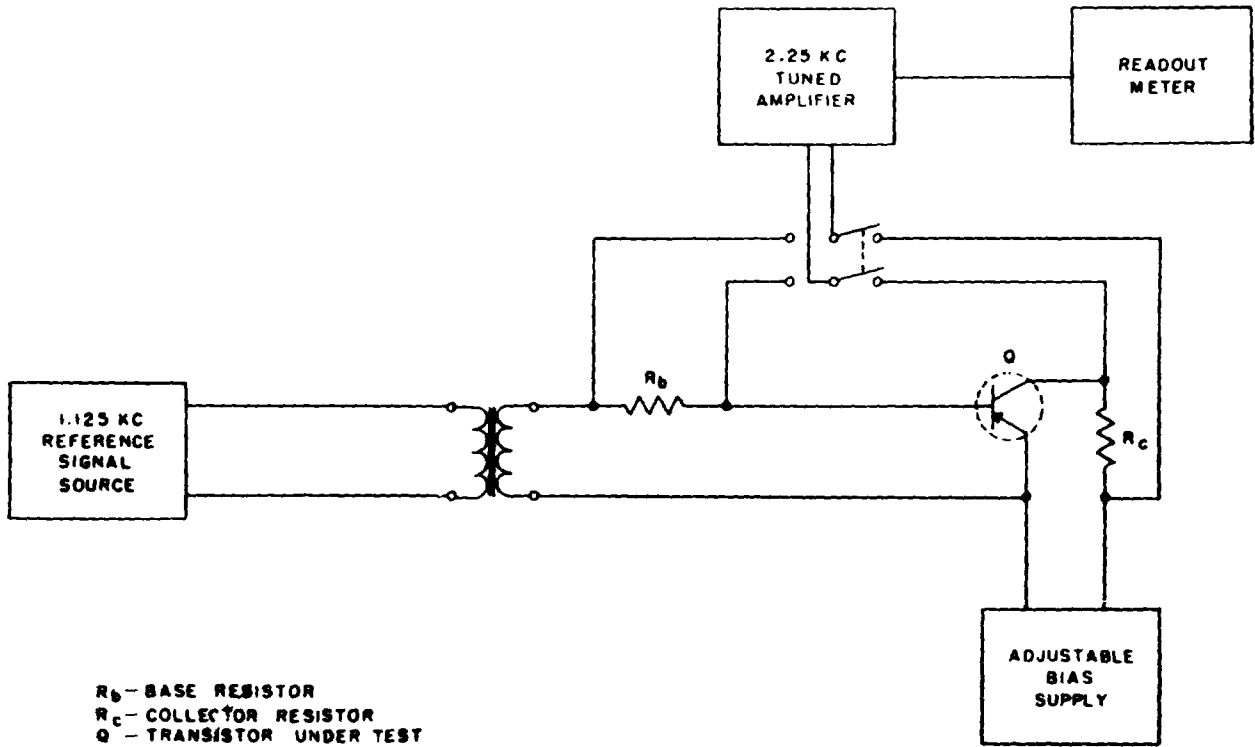

Figure 1-2. Transistor Tester, Functional Block Diagram
(1) Figure 1-2 illustrates a functional block diagram of the tester when measuring beta. The transistor beta parameter is defined as the current gain of a common - emitter transistor configuration, and is expressed by the equation
(4) As shown in figure 1-2, a 1, 125-kc reference signal is applied to the base-emitter junction of the test transistor. The 2.25- kc (second harmonic) tuned amplifier is switched across collector load resistor R_c , and the reference signal is adjusted for 1-milliamperes (red line on readout meter) average d-c collector current. The tuned amplifier is then switched across the series base resistor (R_b) and the readout meter indicates the value of β .
(5) For the transistor tester to retain its specified accuracy, the impedance loading across the emitter-base and emitter-collector junctions of the test transistor must be 500 ohms or greater. In the event this d-c resistance requirement is not met, a front - panel warning light indicates this low-resistance shunt path; but if an impedance of 500 ohms or more is present the specified accuracy is retained regardless of the lighted lamp. This same warning light also indicates a shorted transistor.
(6) The readout meter (minus its associated amplifier) measures transistor leakage current (I_{co}) when the transistor is disconnected from the circuit. This facility provides an additional check on transistor degradation.